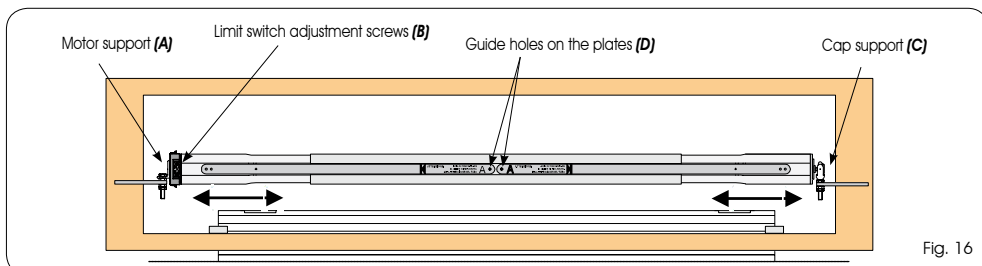

Fig. 16
1. Fit the motor head on the rapid fitting on the motor support (Fig.16 ref.A). The motor must be oriented to enable access to the adjustment screws of the limit switches (Fig.16 ref. B).
2. Allow the telescopic components of the electro-roller to slide until the cap is inserted on the bearing in its support (Fig.16 ref.C).
3. Check if the roller is positioned perfectly horizontally, if necessary modifying the heights of the supports (Fig.16 ref.A-C), with the nut-locknut system.
5. Near the guide holes on the plates (Fig.16 ref.D), drill a hole with a 5mm diam. bit suitable for iron.
6. In the holes (Fig.16 ref.D), screw the supplied self-tapping screws (Fig.1 Ref. E), firmly securing the roller components to each other.